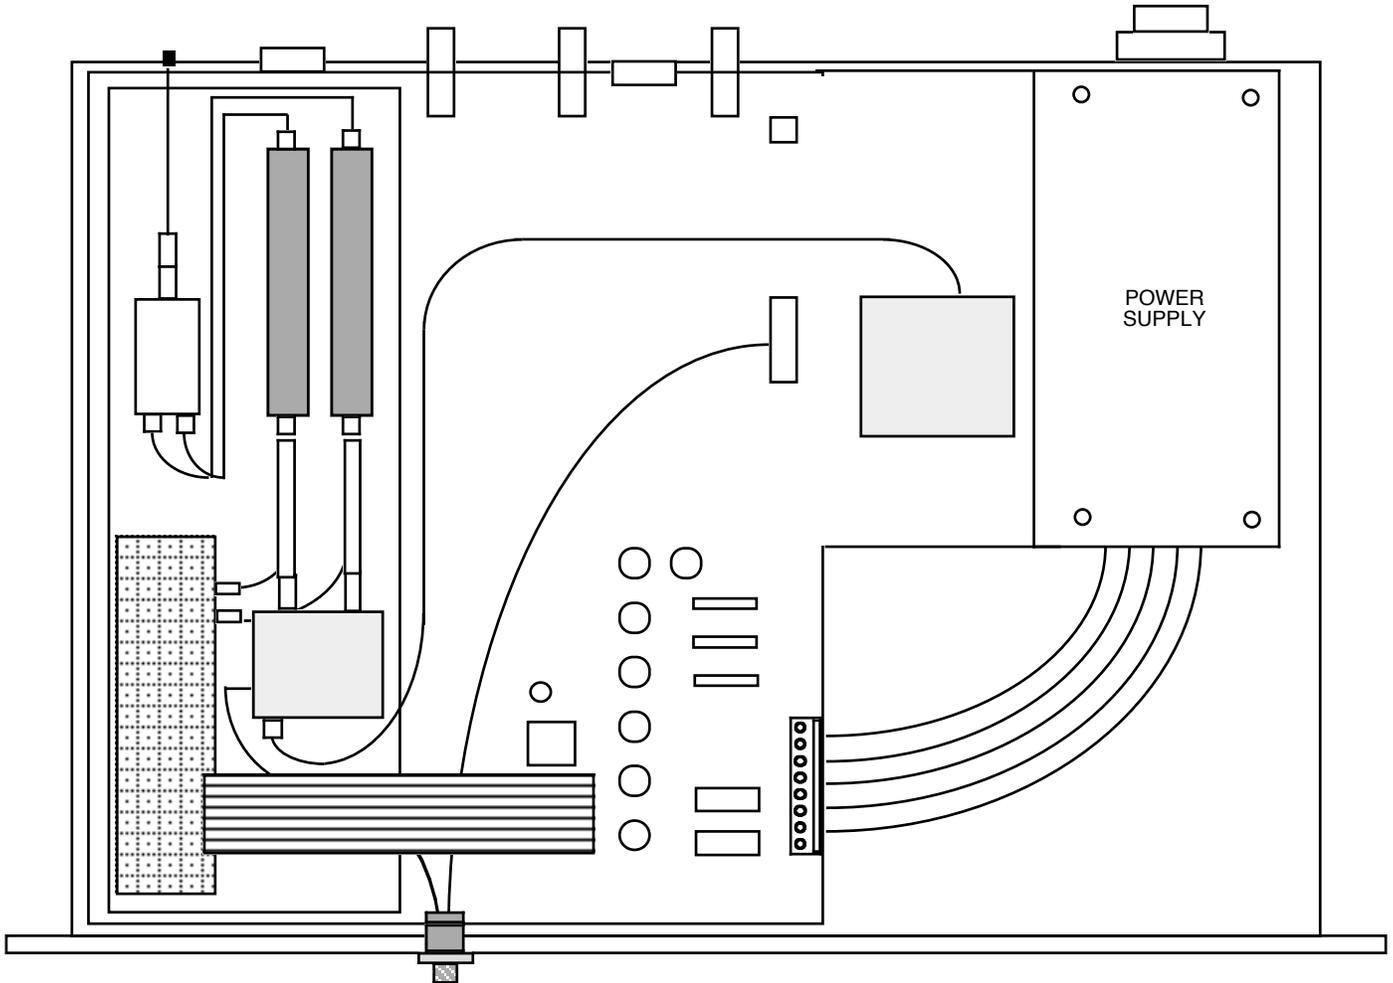

FIGURE 2.0 2115-21-109# Mechanical Assembly
2.1 Mechanical - The 2115-21-109# consists of one RF PCB housed in a 1 RU (1 3/4 inch high) by 14 inch deep chassis. A switching, ± 12 , +24, +5 VDC power supply provides power for the assemblies. The 2115-21-109# can be secured to a rack using the 4 holes on the front panel. Figure 2.0 shows how the 2115-21-109# is assembled.